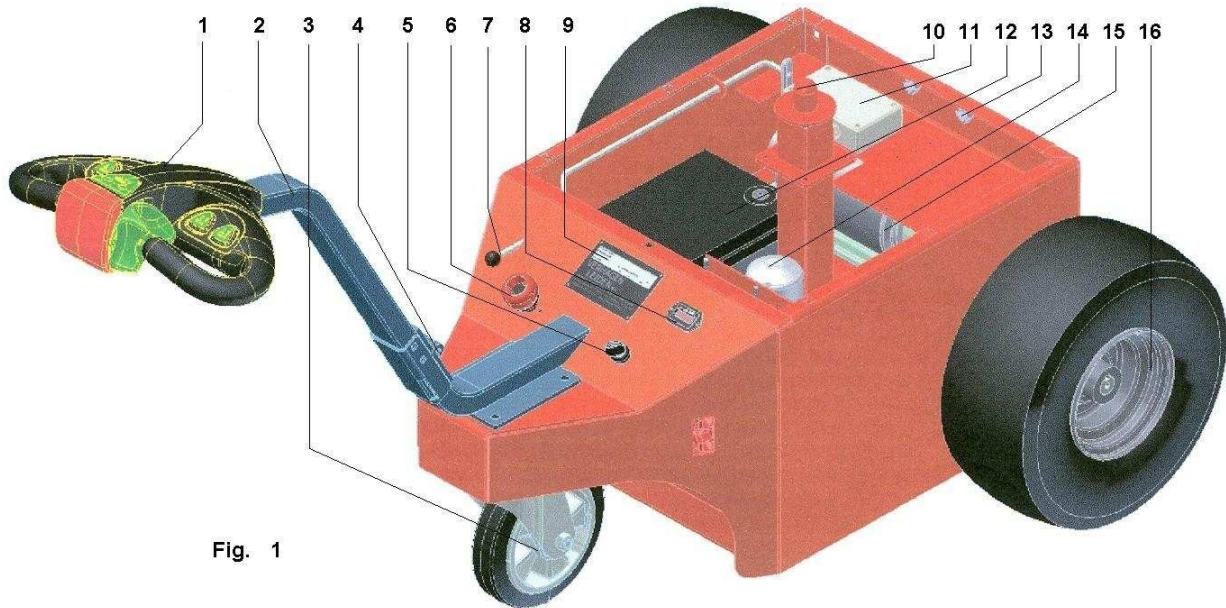

Fig. 1
5.3 Operation (see photo, fig. 1)
The ignition lock (5 fig. 1) is used to switch off the batteries, **always switch off the battery in case of maintenance to the Multi-Mover XL50.**